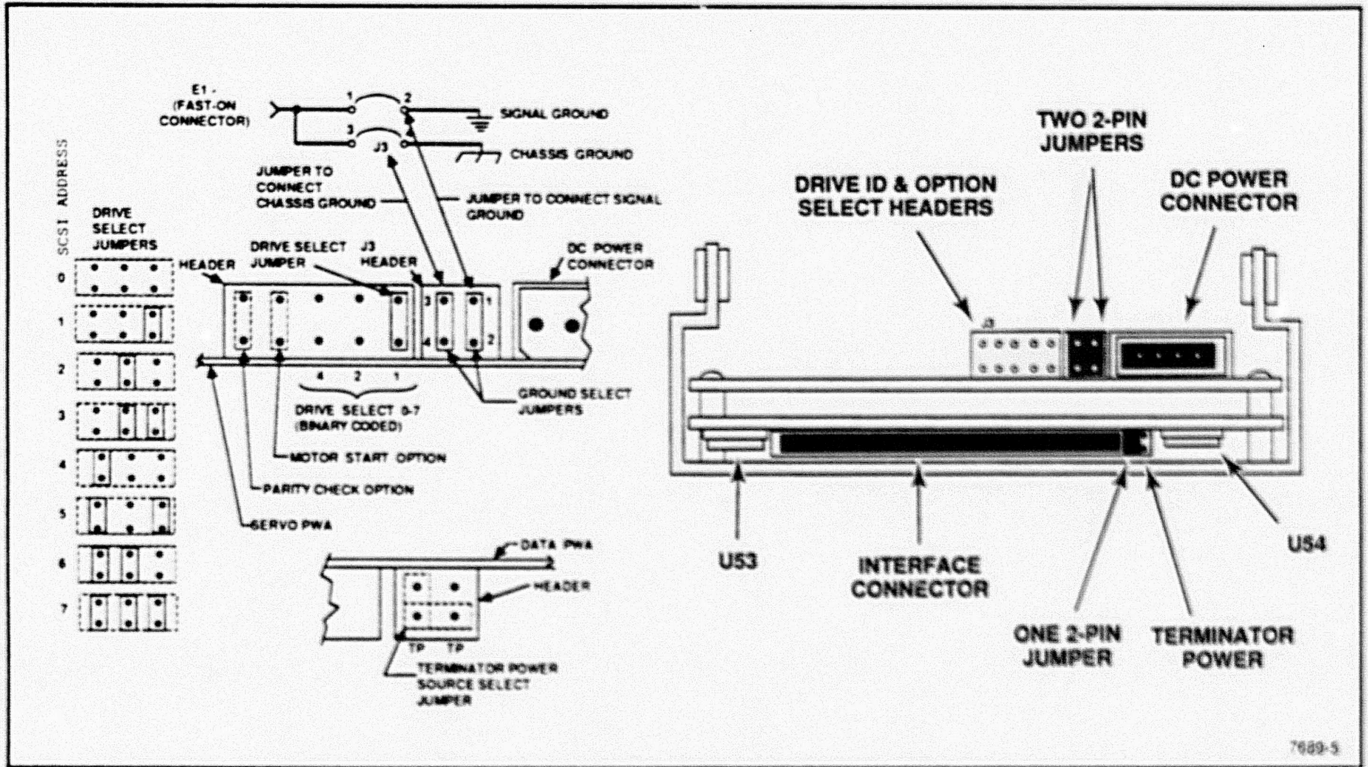

Figure 11. Strap Locations for the 300-Mbyte Hard Disk Drive.
1. Verify that the address jumpers on the hard disk drive are set to SCSI address 00. See Figure 11 (for the 300-Mbyte drive), Figure 12 (for the 600-Mbyte), or Figure 13 (for the 1-Gbyte drive) in the discussion "Device Strapping and Addressing" later in this manual.